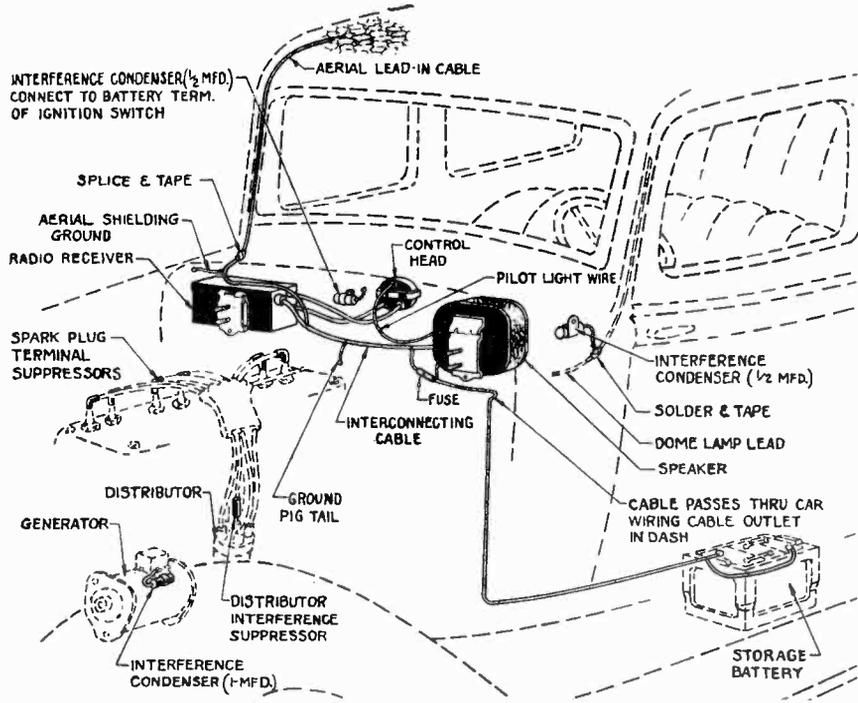

FIGURE 4
Remove the car wiring cable outlet grommet cap on the left-hand side of the dash, so that the battery cable can be installed. Push the metal fuse housing end of the cable through the grommet from the engine side, leaving just enough slack so that the cable can be connected and fastened in place as shown in Figure 4. Route the cable through the clip that holds the car wiring harness and along under the floor boards to the battery. Replace the grommet and cap, but do not connect the cable terminal to the battery terminal at this time.
lead-in. The shielding must be grounded to the cowl panel by drilling a 1/8" hole where the hood overlaps and as close to the A pillar as possible, using the 8-32 bolt and nut supplied for this purpose. (See Figures 4 and 5.) Remove paint from around hole.
Place the fuse and fuse insulator in the metal fuse housing of the battery cable and connect it to the small fuse connector which branches out of the interconnecting cable close to the Speaker. The two (2) shield terminals at the fuse housing must be connected under the same terminal screw that is used to ground the speaker cable shield at the speaker. Figure 4 shows the general layout of the cables and connections.
(see Figure 4). Install a 1/2 microfarad by-pass condenser, splicing and soldering it to the dome light lead as close as possible to the point where it enters the windshield pillar. The condenser must be fastened to the cowl panel in front of the hood line by drilling a 3/8" hole where the hood overlaps and as close to the pillar as possible, using the 8-32 bolt and nut supplied for this purpose. (See Figures 4 and 5.) Remove paint from around hole. Replace the car lighting fuse—test the lights and horn.